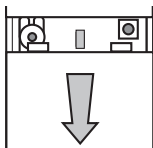

Figure 2
2. **Open chime extender case.** Press on cover with your thumb and slide cover off as shown in Figure 2.